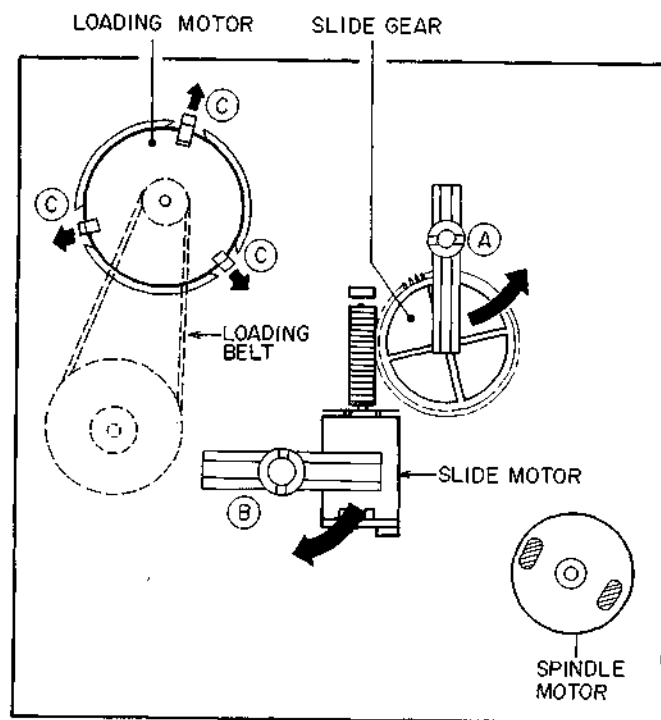

Fig. 6-1
- 2) Extend motor holders ©, at the same time, push the loading motor from pulley side, then remove the loading motor. (Fig. 6-1)
- 2) Pull out the slide motor. (Fig. 6-1)
- 1) Turn the gear hold lever Ⓐ counterclockwise. (Fig. 6-1)